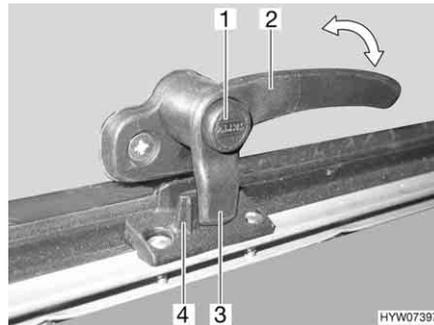
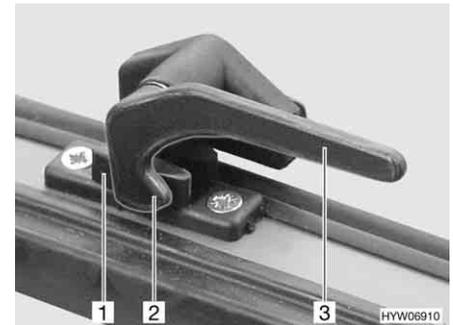

Fig. 65 Catch lever with safety knob in "closed" position
Fig. 66 Catch lever in "closed" position
- Press and hold the security button (Fig. 65,1), if present.
- Turn the catch lever (Fig. 65,2 or Fig. 66,3) a quarter turn towards the centre of the window.
- Turn the catch lever (Fig. 65,2 or Fig. 66,3) a quarter turn towards the window frame. The locking catch (Fig. 65,3 or Fig. 66,2) on the catch lever is entirely on the inner side of the window catch (Fig. 65,4 or Fig. 66,1).
- "Firmly closed" (Fig. 65 and Fig. 66)